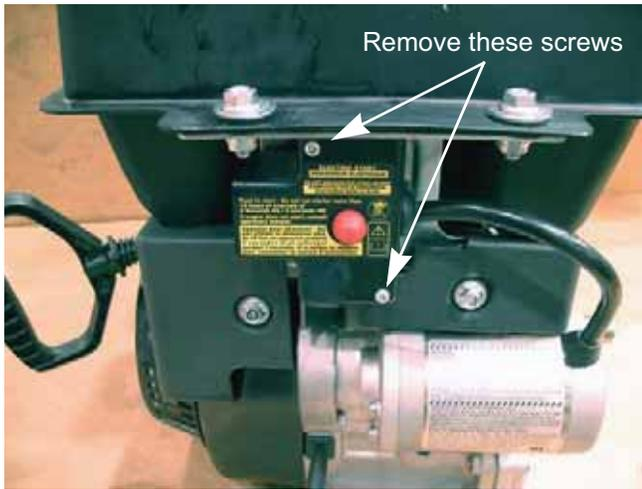

Figure 6.11
2. Remove the two screws that secures the switch box to the engine. See Figure 6.11.